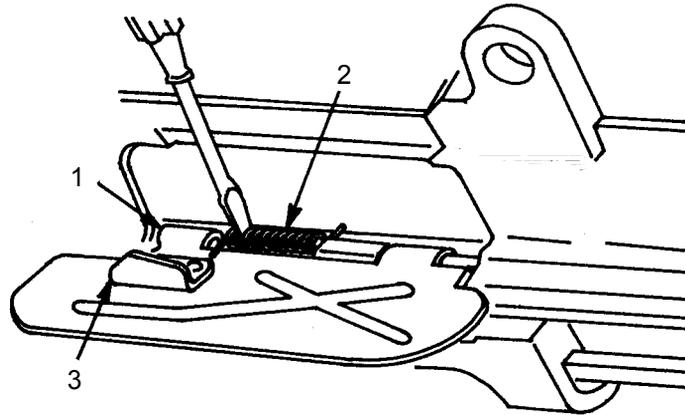

Figure 18. Installation of Torsion Spring.
4. Insert a flat-tipped screwdriver between the second and third coil of the torsion spring (Figure 18, Item 2), and compress slightly. Position spring into alignment with the second cover hinge (Figure 18, Item 1), with the long leg of the spring against the catch (Figure 18, Item 3).